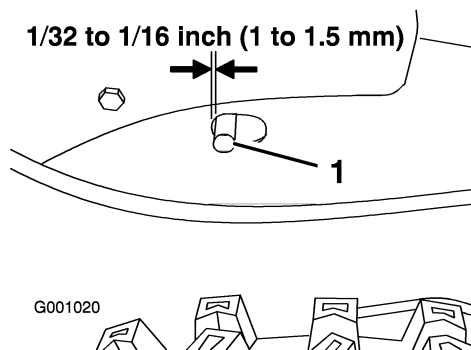

Figure 37
1.5 mm) from the front of the slot to the front edge of the pin (Figure 37).